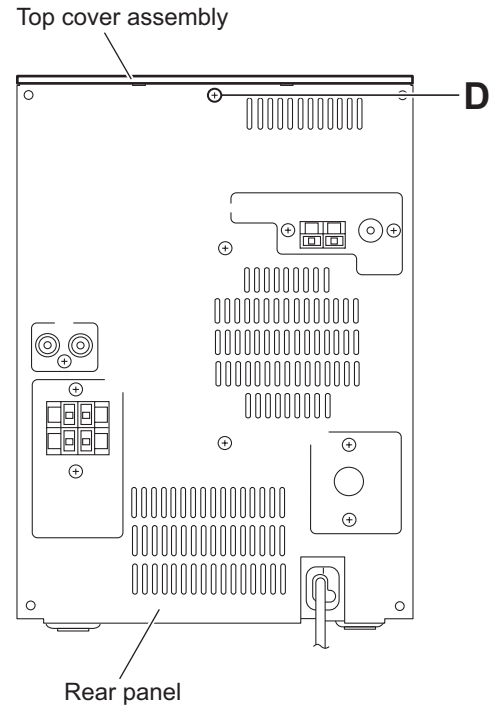

Fig.9
3.1.3 Removing the top cover assembly (See Figs.9 and 10)
- (1) From the back side of the main body, remove the screw **D** attaching the top cover assembly to the rear panel. (See Fig.9.)